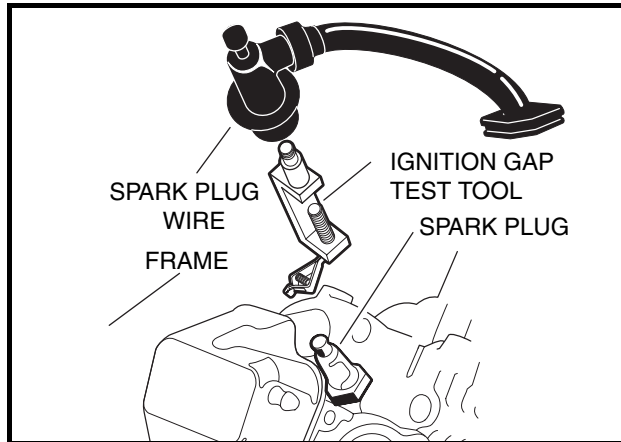

Figure 11-23 Ignition Spark Test
2. Remove the plug wire from the spark plug. Using an ignition spark gap test tool (Thexton 404[®] or equivalent), check for correct spark (Figure 11-23, Page 11-24).